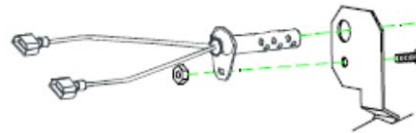

Figure 3
5. After attaching the replacement bracket to the existing bracket, insert the new igniter as shown in Figure 3. Use # 8-32 X 1/2" machine screw and nut to secure the igniter to bracket.